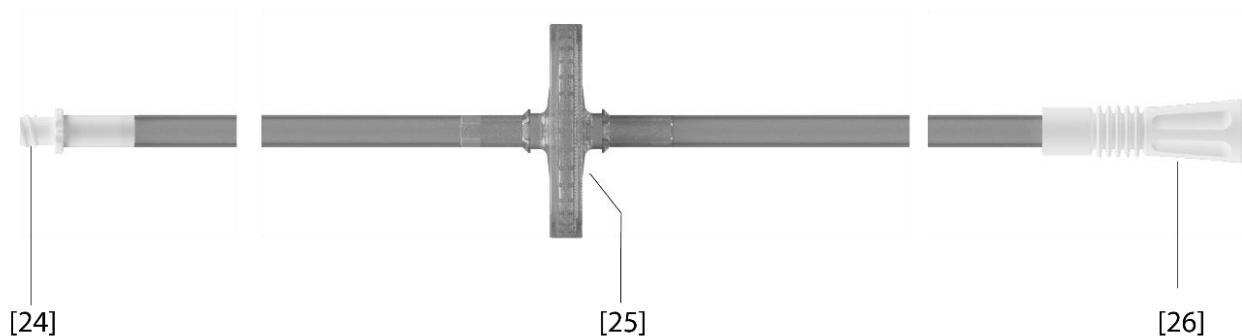

Figure 7 – Tube set for vacuum
- One vacuum suction tube (Figure 7).